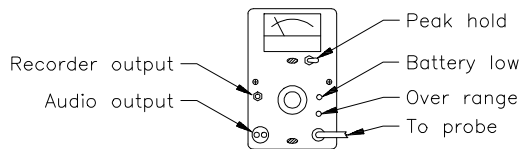

Figure 2
4.2 INSTRUMENTATION OVERVIEW - The front panel controls of the HI-3000 are relatively simple (see figure 2). Most prominent is the range selector switch. There are four ranges for E-field readings and four ranges for H-field readings. The four ranges are selected by the rotary range selector switch. The analog meter displays the reading in field strength units squared. The analog signal is also available at the recorder output jack, which is calibrated for one volt output for full-scale meter deflection. The output is also converted to an audio signal, which is a ticking sound proportional to meter deflection. LED indicators show over range conditions and battery status. The momentary switch labeled peak hold is used to recall the highest reading from the memory.